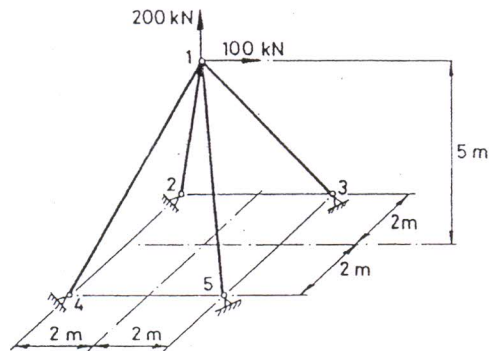

Fig. 4
- Q.4 For the space truss shown in Fig. 4, determine the forces in all the members. (15)